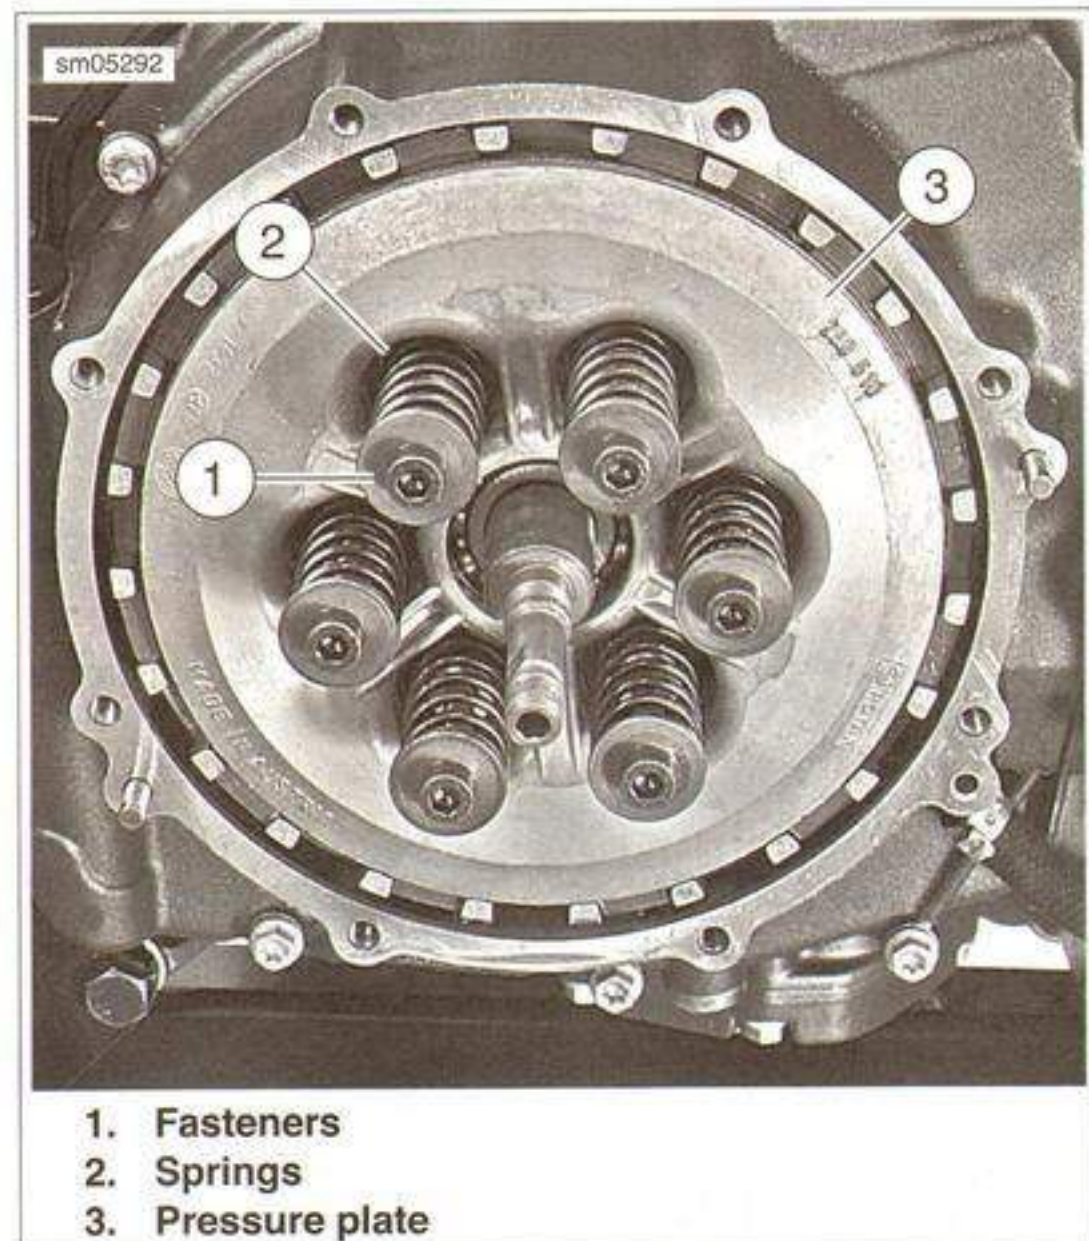
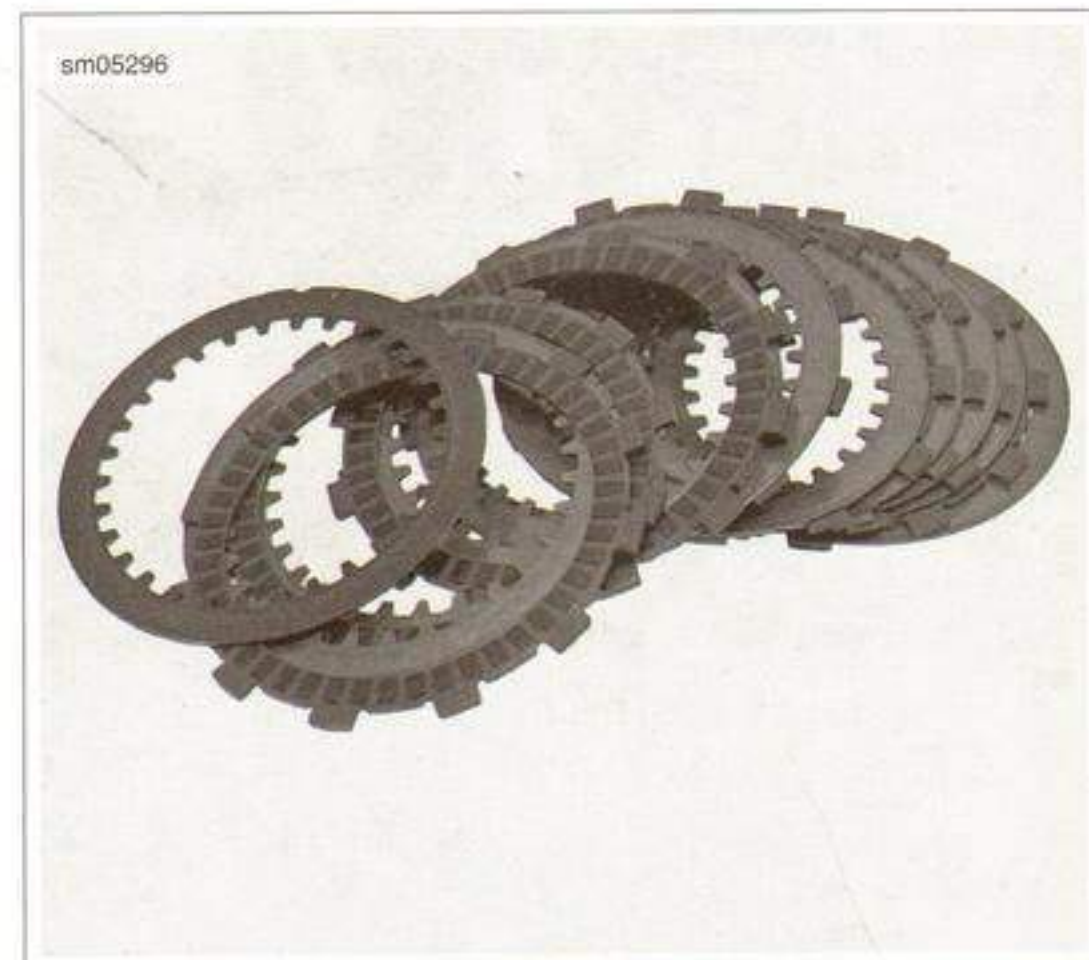

Figure 6-39. Clutch Springs and Pressure Plate
Figure 6-40. Friction and Steel Clutch Plates
3. See Figure 6-39. Slowly loosen (2-3 turns at a time) the spring fasteners in a crisscross pattern.
4. Remove the fasteners (1), springs (2) and the pressure plate (3).
5. See Figure 6-40. Remove the friction and steel plates from the clutch basket.